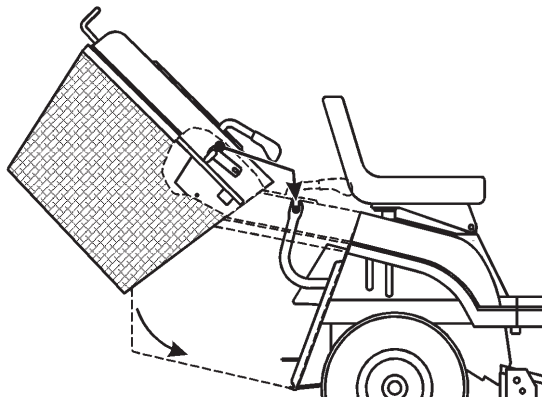

Figure 39
1. Use 2 hands to tip the grass collector forward (Fig. 39).
2. Tip the collector forward approximately 40 degrees and slide it onto the 2 support brackets at the rear of the tractor (Fig. 39).